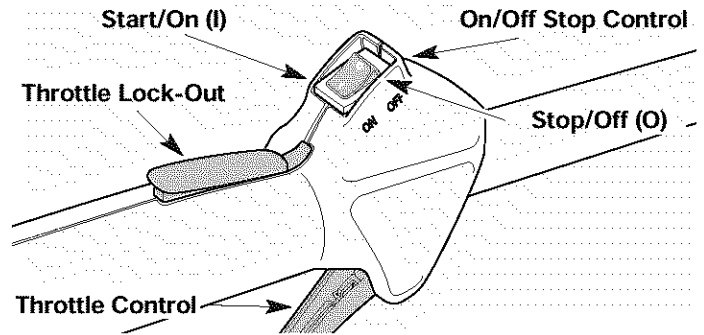

Fig. 16
2. Put the On/Off Stop Control in the **ON (I)** position (Fig. 16).
**NOTE:** If the engine floods while trying to start. Squeeze the throttle control (Fig. 16). Pull the starter rope briskly. The engine should start within three (3) to eight (8) pulls.
2. Put the On/Off Stop Control in the **OFF (O)** position (Fig. 16).